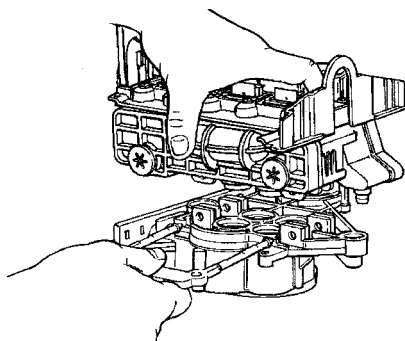

Figure 16
9. Apply downward hand pressure on the control and pull the locking bar out, Figure 16.